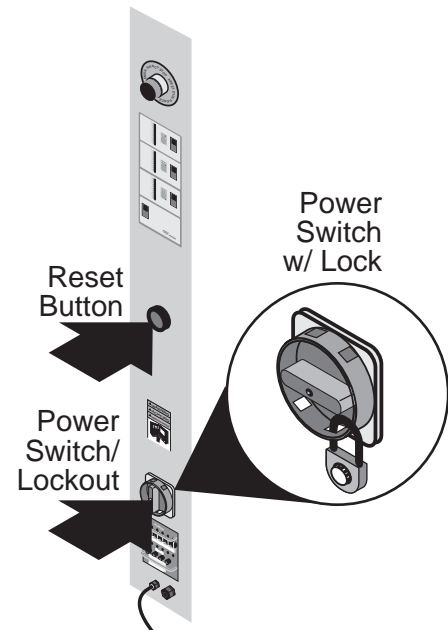

Figure 1-4: Machine Reset Button
2. Press the main machine reset button above the power switch on the back of the machine. See *Figure 1-4: Machine Reset Button*.